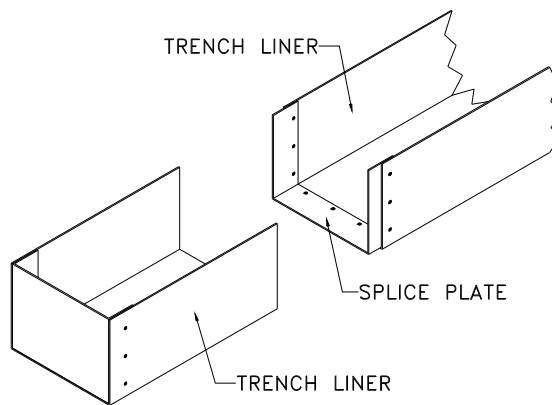

Figure 11
STEP 3. Place a mating section of the liner into its assembled position relative to the liner section already put into place (see Figure 11).